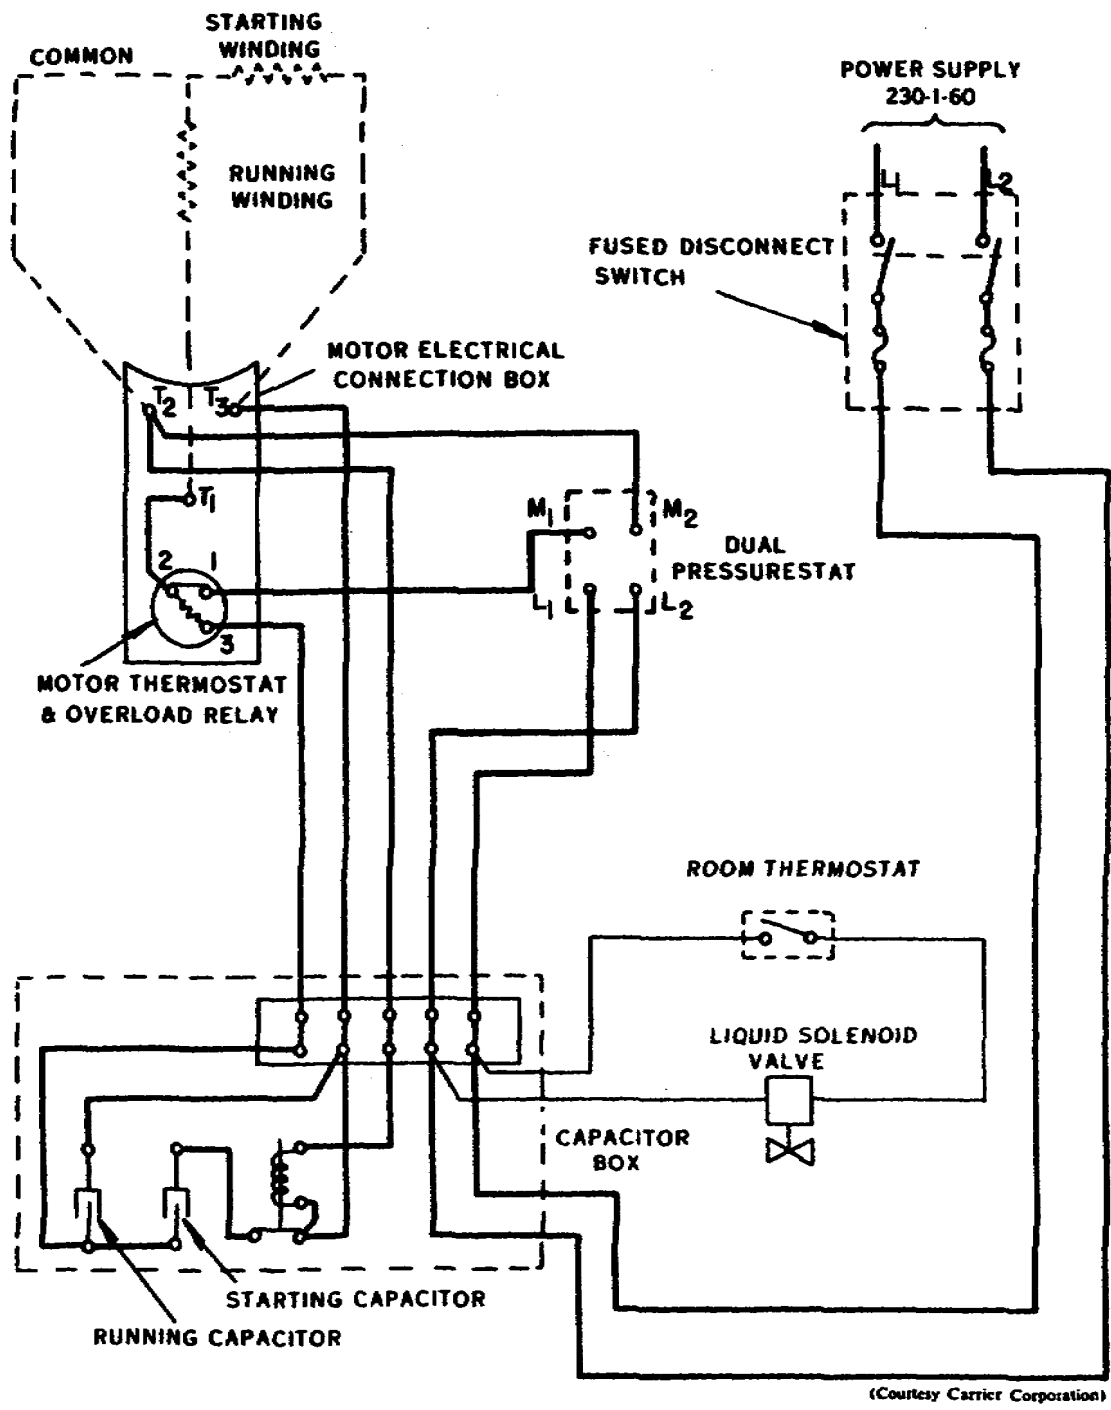

Figure 19. Single-phase wiring diagram for a semihermetic condensing unit.
- (1) Turn off electrical power to unit.
- (2) Connect the inverted and elevated refrigerant drum to the receiver charging valve.
- (3) Open drum service valve.
- (4) Purge air from charging line.
- (5) Open the charging valve.
- (6) Several minutes are required to transfer a drum of refrigerant in this manner; the transfer time can be shortened by heating the drum (do not use flame).
- (7) When sufficient charge has been transferred into the system, power can be turned on.
- (8) By checking the pressure gauges and the sight glass, you can determine when the system is fully charged. To maintain the efficiency of the machinery you have installed, you must service and troubleshoot it.
34. The high-pressure setting of the dual pressurestat, shown in figure 19, should not require a change; however, the low-pressure setting will probably require adjustment, depending upon the evaporator temperature. Check the high-pressure cutout by
36. *Testing capacitors and relay.* The starting capacitor used in single-phase units is wired as shown in figure 19. Capacitors are connected in series with one power lead to the motor starting winding. These capacitors may fail because of a short or open circuit. If they are short circuited, the starting current draw will be excessive. The compressor may not start and will cause fuses to blow because of the increased load. If it is connected in a circuit feeding lights, the lights will dim. A humming sound from the compressor motor indicates improper phasing between the starting and running windings caused by an open-circuited capacitor. To check starting capacitors, replace them with good capacitors and observe the operation of the unit.